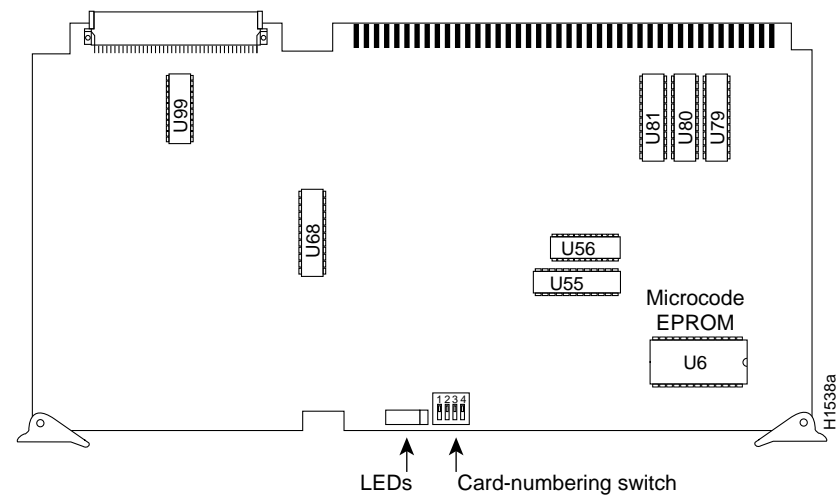

Figure 5-26 CSC-CCTL2 ciscoBus2 Controller Card—Component-Side View
- CSC-CCTL2 ciscoBus2 controller card, Figure 5-26